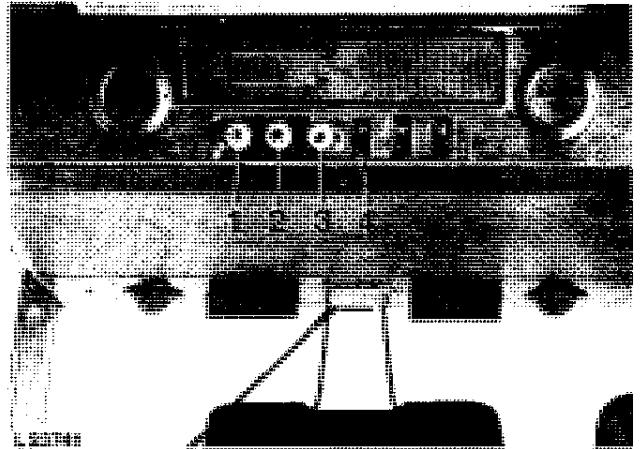

Fig. 4 – Operator's Cab Controls (OPU Cab)
1. Open air outlets. Check fan switch 2 (fig. 4 or 5) for proper operation.
With fan operating, check heater switch 1 (fig. 4 or 5) for proper operation. For this purpose, turn switch on tractors equipped with OPU cab to the left and with SG2 cab to the right, making sure that warm air enters cab (with engine at operating temperature).
With fan operating, check infinitely variable thermostat switch (if equipped) for proper operation. Turn off heater. Turn thermostat switch 3 (fig. 4) clockwise, making sure cool air enters cab. If switch does not operate correctly, see Section 90, Group 05.